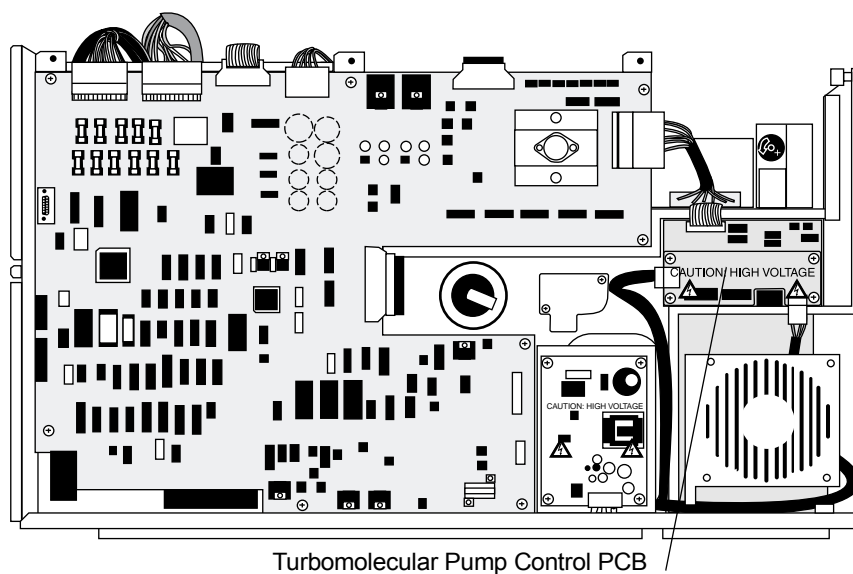

Figure 7-16. Left Side View, Showing Turbo Pump Control PCB
4. Remove the cover to the Turbomolecular Pump Control PCB. See Figure 7-16 for the location of the Turbomolecular Pump Control PCB.